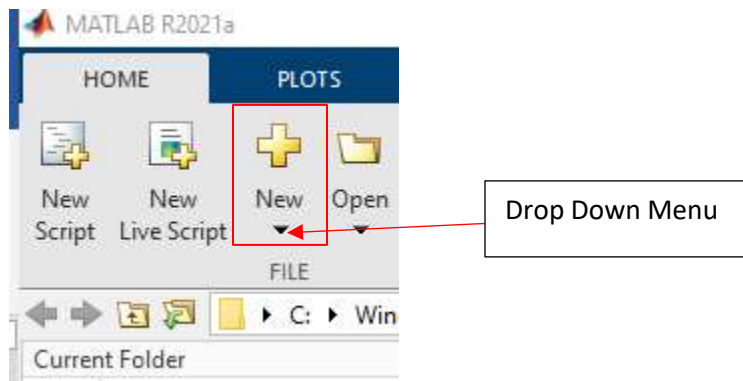

Figure 2: New Button in MATLAB
2. Go to the Top Left Corner of the MATLAB Screen and click on the drop-down button underneath the New Button as shown in Figure 2.